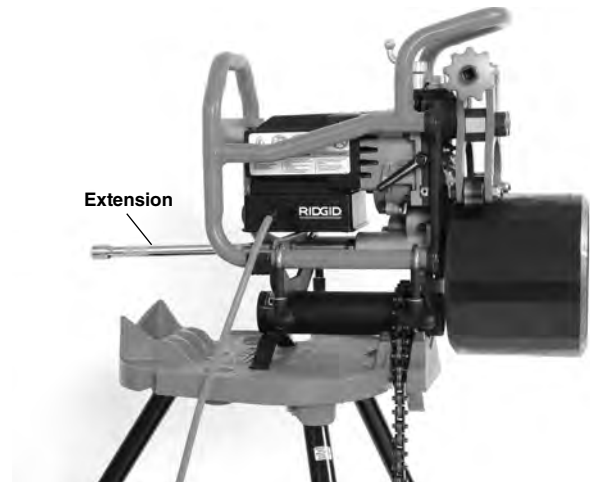

Figure 10 – Fixed Beveller, Pipe under 12" Long, under 50 Pounds
8. Install the supplied 10" long ½" drive extension in the Beveller drive shaft (*see Figure 10*).
9. When beveling pipe less than 12" (300 mm) long and less than 50 pounds (22 kg), as long as the beveller and Portable TRISTAND Pipe Vise are stable and secure, no pipe stand is needed to support the pipe. Pipe is placed directly on the drive roll and secured with the guide rolls (*Figure 10*).
Confirm that the beveller, pipe stands and pipe have been properly set up (see Figures 10, 12 and 13).